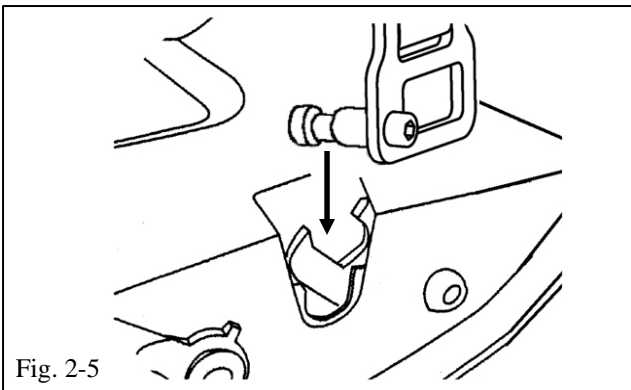

Fig. 2-5
- (1) Adjust strap length and position, in order to allow locking strap buckles to lock into tailgate (Fig 2-5).